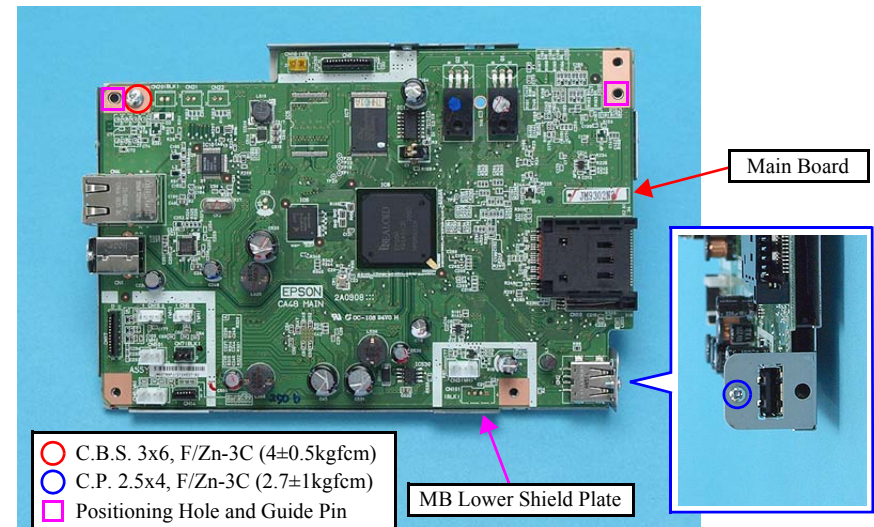

Figure 4-23. Removing the Main Board (2)
- Align the positioning holes of the Upper Shield Plate with the guide pins of the Main Board as shown in Figure 4-23.